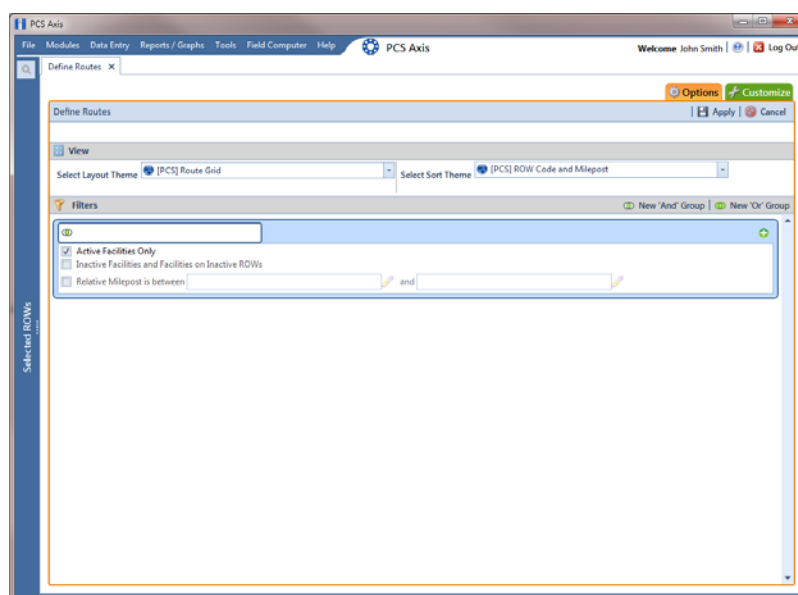

Figure 7-3. Filters
- a Click the check box of one or more options in *Filters* and then click  **Apply**. For example, click **Active Facilities Only** to only include active facilities (Figure 7-3, page 286).